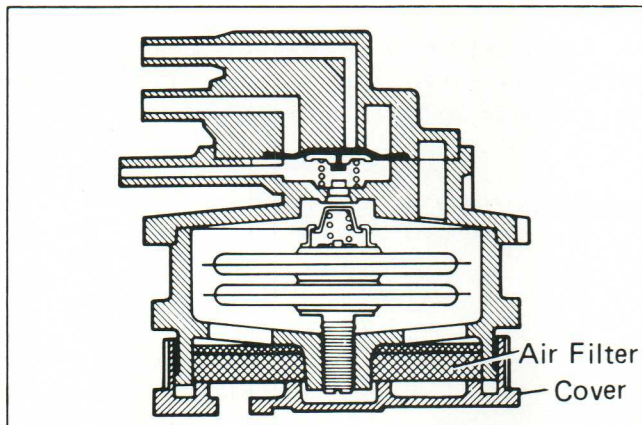

Figure 249-3
1. Visually check the air filter in the HAC valve (Figure 249-3), and clean if necessary.